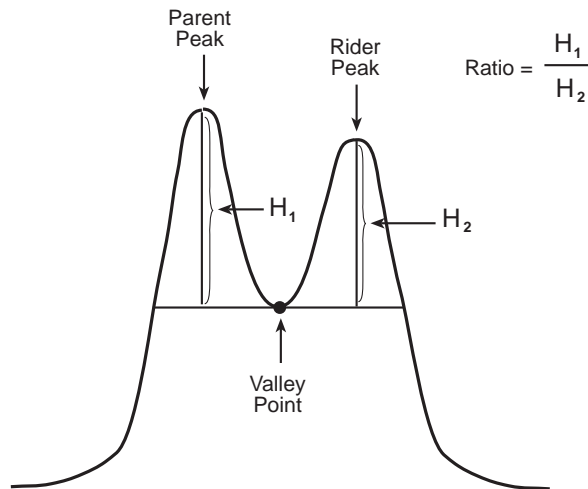

Figure 3-30 Height Ratio Test
- **Classic** – The parent peak is the tallest peak in the fused peak group *and* the skimmed peaks pass the height ratio test (Figure 3-30). This event can start and end outside the fused peak group.
The peak heights used to calculate the height ratio are the heights of the peaks from the peak apex to the valley point (Figure 3-30).
When you enable exponential skim, the integration algorithm determines if peaks should be considered as rider peaks rather than fused peaks. The algorithm checks if the height ratio of parent peak to rider peak is equal to or greater than the height ratio value you entered for the event. The peak heights used to calculate the height ratio are the heights of the peaks from the peak apex to the valley point (Figure 3-30).